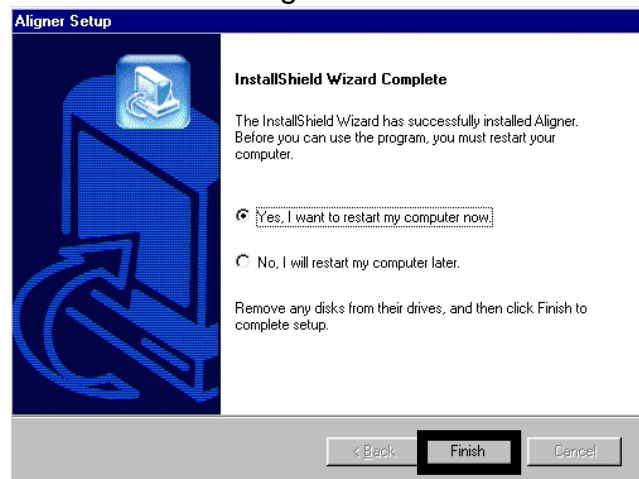

Figure 3-9
12. After a successful installation the Install Shield Wizard will display a installation complete. The unit will need to be re-booted before you can use the program, click on **<FINISH>** to re-boot the aligner. (Figure 3-9)